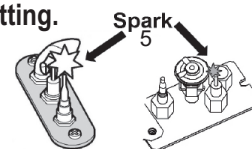

Fig 3
2. SET ON/OFF SWITCH (1) TO "OFF" POSITION.
- Wait five (5) minutes to clear out any gas, then smell for gas, including near the floor. If you smell gas, STOP! Follow "B" in the safety information above on this label. If you don't smell gas, go to the next step.
3. AUTOMATIC IGNITION (fig. 1): Locate the pilot (fig 3.) inside of firebox.
- ON/OFF switch (1) in ON position, MAN-knob (2) in ON position; set Flame Adjustment knob (3) to lowest setting (U);
- When the pilot is lit, the Flame Adjustment knob (3) will automatically rotate to the highest setting.
4. MANUAL IGNITION (fig. 2): With the window off, locate pilot (fig. 3) inside firebox;
- ON/OFF switch (1) in ON position, MAN-knob (2) in MAN position;
- Set Flame Adjustment knob (3) to the lowest setting (U);
- Push down the metallic core (4) with a pen or similar instrument; this will establish the pilot gas flow;
- Light gas at the pilot (5) with a match;
- Continue holding down metal core (4) for about 10 seconds; after release, pilot should remain lit;
- If the pilot will not stay lit after several tries, turn the gas control knob (3) to "OFF" (U) and call your local service technician or gas supplier.